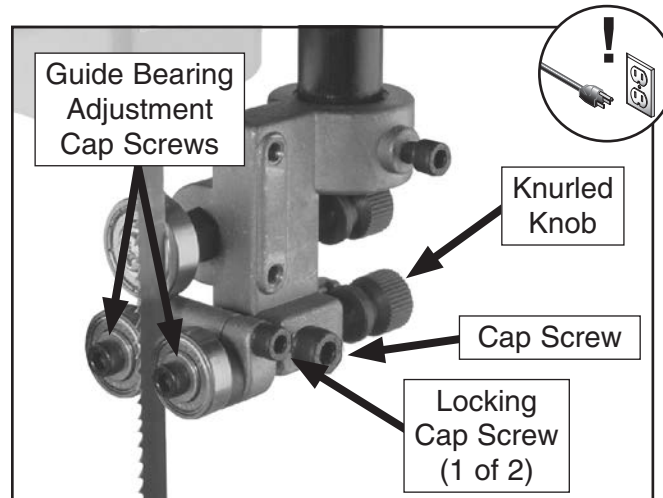

Figure 31. Blade guide bearing controls.
2. Familiarize yourself with the blade guide controls shown in **Figure 31**.